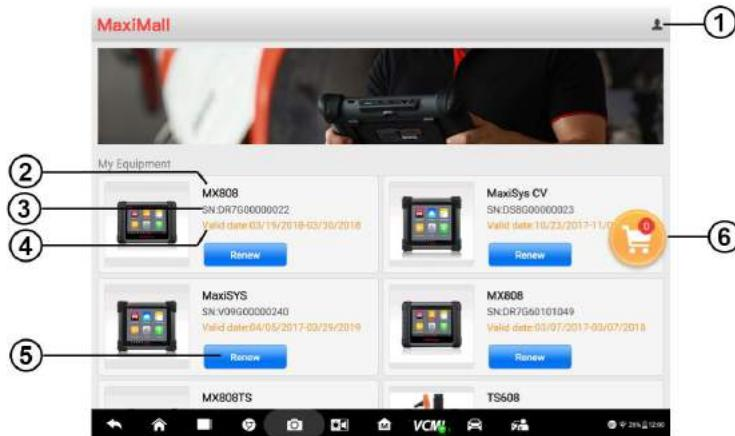

Figure 20-1 Sample MaxiMall Layout Screen
1. Tap the **Renew** button as shown in the *Figure 20-1*.